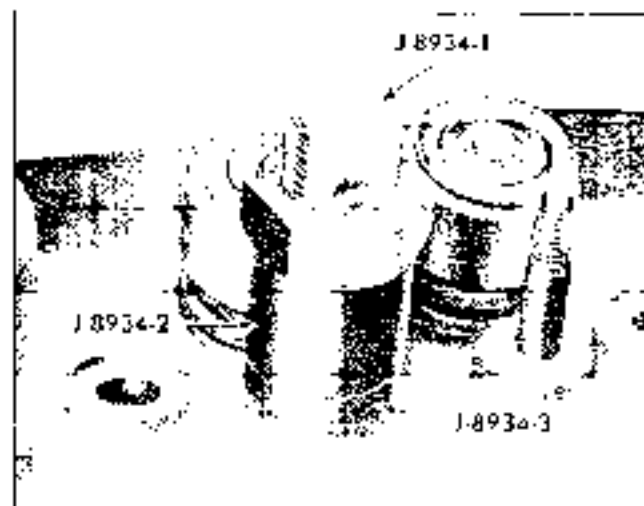

Fig. 6-88 Rocker Arm Stud Removal
8. Thread $7/8"$ standard nut on stud remover and turn nut until rocker arm stud is out of cylinder head (Fig. 6-88).